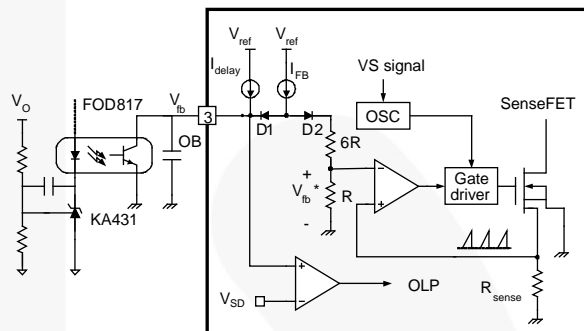

Figure 14. Valley Switching Pulse-Width Modulation (VS-PWM) Circuit
2. Feedback Control: This device employs current-mode control, as shown in Figure 14. An opto-coupler (such as the FOD817) and shunt regulator (such as the KA431) are typically used to implement the feedback network. Comparing the feedback voltage with the voltage across the R_{sense} resistor makes it possible to control the switching duty cycle. When the reference pin voltage of the shunt regulator exceeds the internal reference voltage of 2.5 V, the opto-coupler LED current increases, pulling down the feedback voltage and reducing the drain current. This typically occurs when the input voltage is increased or the output load is decreased.
2.1 Pulse-by-Pulse Current Limit: Because current-mode control is employed, the peak current through the SenseFET is limited by the inverting input of PWM comparator (V_{FB}^*), as shown in Figure 14. Assuming that the 225 μ A current source flows only through the internal resistor ($6R + R = 12.6k\Omega$), the cathode voltage of diode D2 is about 2.8 V. Since D1 is blocked when the feedback voltage (V_{FB}) exceeds 2.8 V, the maximum voltage of the cathode of D2 is clamped at this voltage, clamping V_{FB}^* . Therefore, the peak value of the current through the SenseFET is limited.